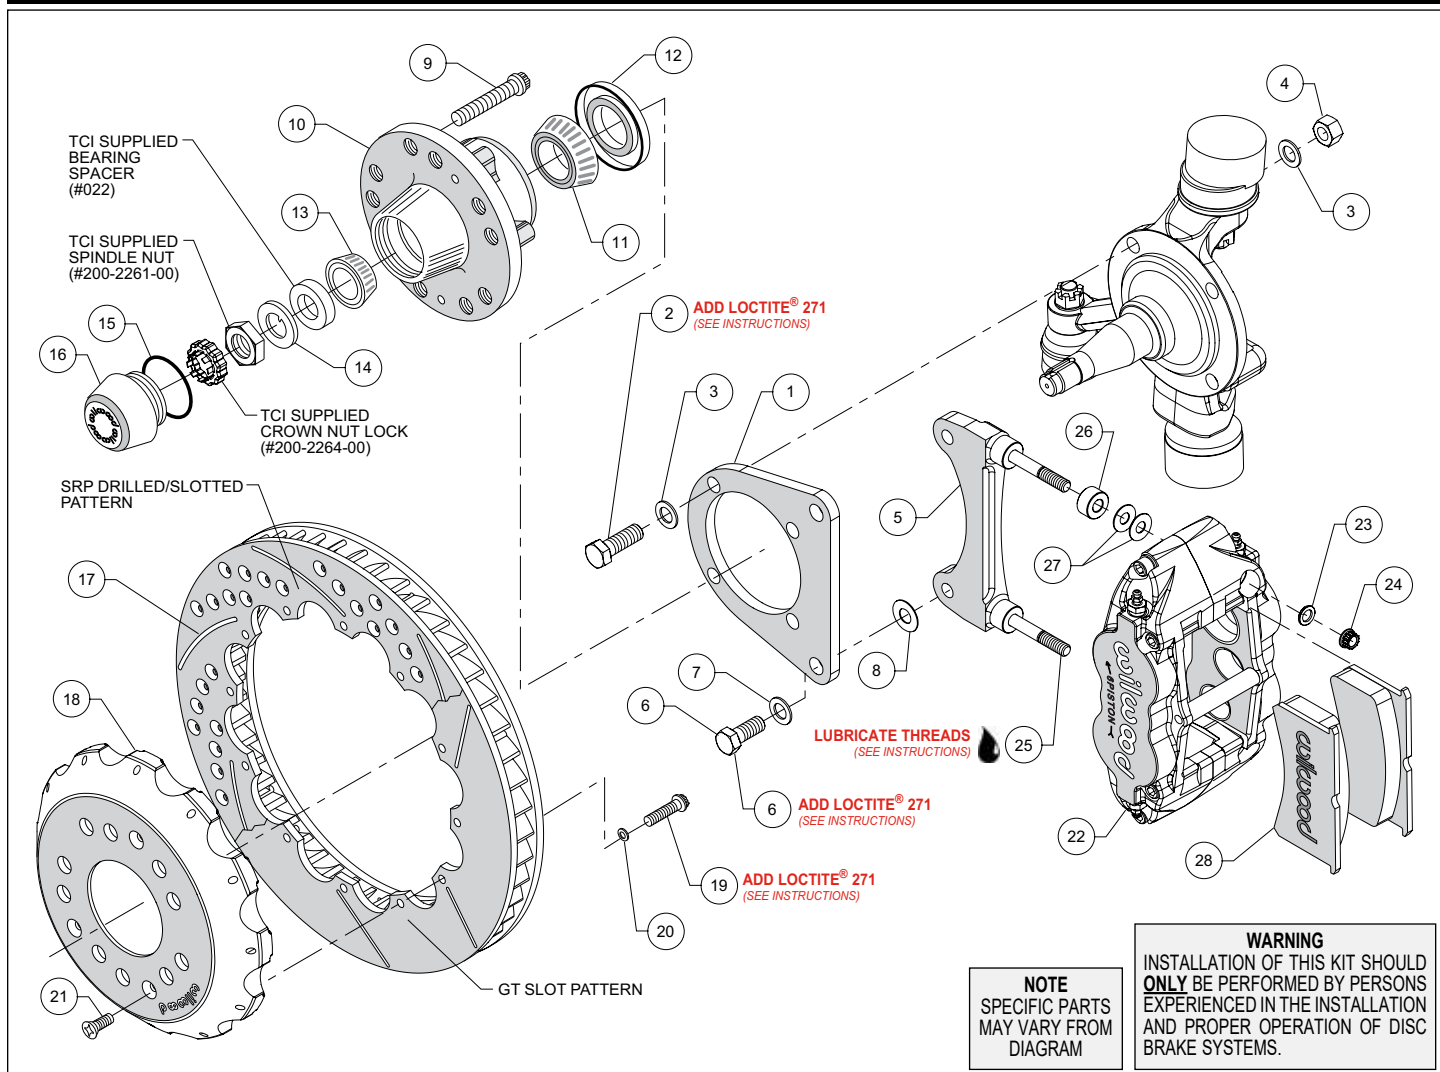
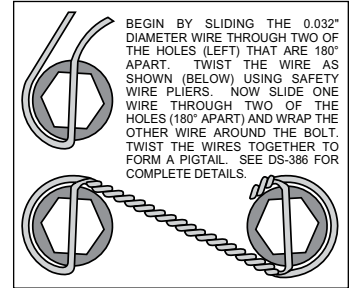

Figure 1. Typical Installation Configuration
Figure 3. Safety Wire Diagram
NOTE: Numbers in parenthesis refer to the parts list and Figure 1 on the preceding pages.
- Orient the flat bracket (1) as shown in Figure 1, and Photo 1, and install using bolts (2), washers (3), and nuts (4). **NOTE:** The two lower mount bolts thread directly into the steering arm. Temporarily tighten the mounting bolts. **NOTE:** The bracket must fit squarely against the spindle face. Inspect for interference from casting irregularities, machining ridges, burrs, etc. After the bracket alignment has been checked, remove the bracket mounting bolts (or nuts) one at a time and apply red *Loctite*[®] 271 to the threads. Torque bolts to 77 ft-lbs.
- The radial mount caliper bracket (5) should initially be installed with clean, dry threads on the mounting bolts. Orient the bracket as shown in Figure 1, and Photo 2, and install using bolts (6), and washers (7). Initially place one .029" thick shim (8) on each bolt between the flat bracket (1) and radial mount caliper bracket (5), Figure 1. Temporarily tighten the mounting bolts. Later, after the caliper alignment has been checked, the mount bolts will be secured using red *Loctite*[®] 271.
- Install wheel studs (9) into the hub (10), Photo 3. Torque to 77 ft-lb. **NOTE:** There are two five lug patterns in the hub (5 x 4.50 and 5 x 4.75). Ensure the correct hub stud pattern is being used to fit the wheel application.
- Pack the large inner bearing cone (11) with high temperature disc brake bearing grease (available from your local auto parts store) and install into the backside of the hub (10), Photo 4.
- Install the grease seal (12) by pressing into the backside of the hub (10), flush with the end of the hub, Photo 4.
- Pack the small outer bearing cone (13) with high temperature disc brake bearing grease and install into hub (10), Photo 5. Slide the hub assembly onto the spindle. Install TCI supplied bearing spacer (#022). Secure using spindle washer (14) and TCI supplied spindle nut (#200-2261-00). Bearing adjustment: Tighten the nut while turning the hub. When there is a slight bind on the bearings, they are seated correctly. Back the nut off about 1/6 to 1/4 of a turn, or sufficiently to allow .001" to .007" end play. **WARNING:** Failure to back off adjusting nut could cause bearing to run hot and be damaged, which could cause the wheel to lock or come off. Install TCI supplied crown nut lock (#200-2264-00) and a new cotter pin (not included).
- Orient the rotor (17) and the hat (18) as shown in Figure 1 and Photo 7. Attach rotor to hat using bolts (19) and washers (20). Using an alternating sequence, apply red *Loctite*® 271 to the threads, and torque to 155 **in-lbs**. For an added measure of security, the bolts may be safety wired using standard 0.032 inch diameter stainless steel safety wire as shown in Figure 3. Please refer to Wilwood's data sheet DS-386 (available at www.wilwood.com/Pdf/DataSheets/ds386.pdf) for complete safety wire installation instructions.
- Slide the hat/rotor (17/18) onto the hub (10) taking care to align the small countersunk holes in the hat with the small threaded holes in the hub. **NOTE:** The hat must fit flush against the hub face or excessive rotor run out may result. Install three flat head screws (21) through the small holes in the hat (18), Photo 8, and torque to 85 **in-lb**.
- NOTE:** This kit contains distinct right and left hand calipers that must be mounted in a specific direction, as described below. Lubricate the caliper mounting studs (25) with lightweight oil. Initially place two .035" thick shims (27) and one spacer (26) on each stud between the caliper and the bracket, as shown in Figure 1 and Photo 9. Mount the caliper (22) onto the bracket (5) using lock nuts (24) and washers (23), Figure 1. Ensure that the caliper is mounted so the largest pistons are at the rotor exit end of the caliper, in relation to the direction of rotor rotation. Temporarily tighten the lock nuts and view the rotor through the top opening of the caliper. The rotor should be centered in the caliper, Photo 10. If not, adjust by adding or subtracting shims (8) between the flat bracket and the radial mount bracket. Always use the same amount of shims on each of the two mounting bolts. Once the caliper alignment is correct, remove the radial mount bracket bolts one at a time, apply red *Loctite*® 271 to the threads, and torque to 77 ft-lb.